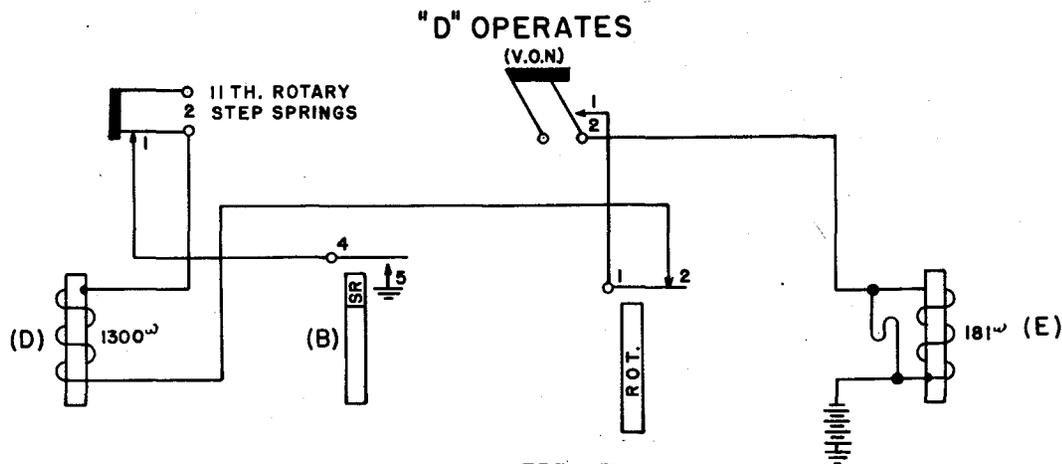
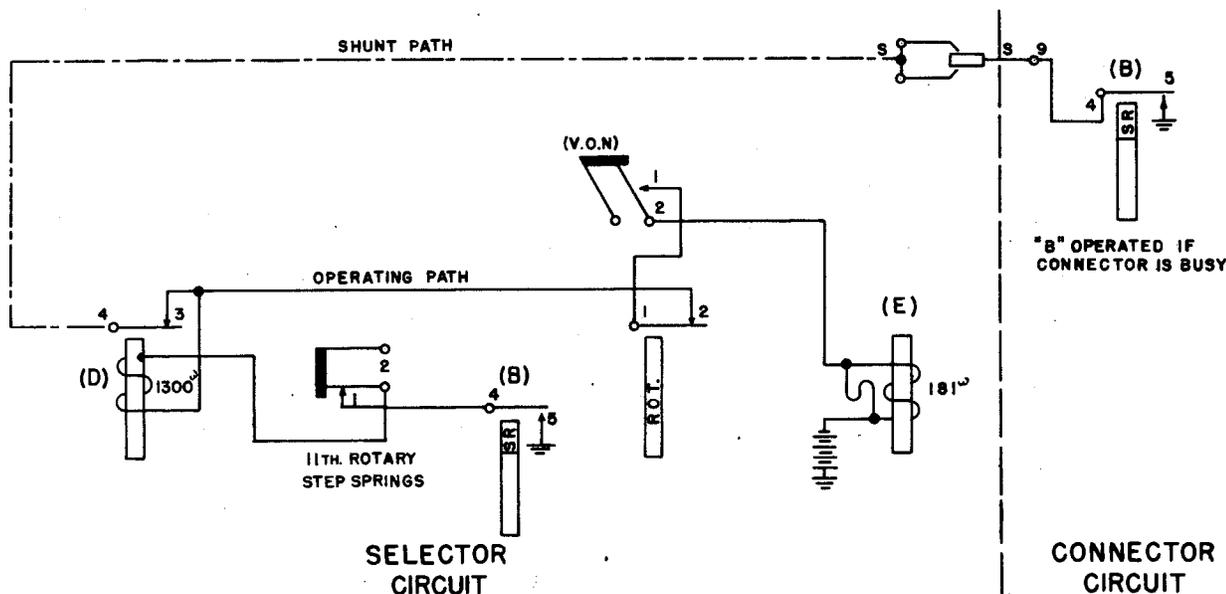

FIG. 7
FIG. 12
Relay (D) operates (Fig. 7) from a ground on the 5-4 contacts of the (B) relay, 1-2 contacts of the 11th rotary step springs, 1300 ohm winding of the (D) relay, 2-1 contacts of the rotary interrupter (ROT) springs, 1-2 contacts of the vertical off-normal (VON) springs, through the 181 ohm inductive and non-inductive windings of the (E) relay in parallel to battery.
This stepping continues until a set of terminals, which does not have ground on the sleeve (S) terminal, is found in which case the (D) relay operates (shunt removed) as described under first trunk idle (Fig. 7).
The ground to shunt the (D) relay comes from the (B) relay of the connector (Fig. 12) over the sleeve (S) terminal of the bank, 4-3 contacts of (D) relay to the winding of the (D) relay. This prevents the ground on the 4-5 contacts of the selector (B) relay, 1-2 contacts of the vertical off-normal (VON) springs, winding the (D) relay from becoming effective. With ground on both sides of the winding the relay cannot operate. (Compare with Fig. 7)
The (E) relay operates (Fig. 12) from the ground on the (B) relay in the connector, sleeve (S) terminal of the selector bank, 4-3 contacts of (D) relay, 2-1 contacts of the rotary interrupter (ROT) springs, 1-2 contacts of the vertical off-normal (VON) springs, inductive and non-inductive winding 181 ohms of the (E) relay to battery.